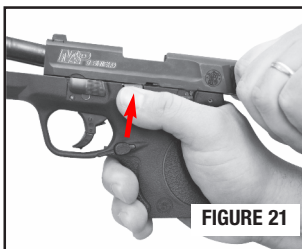

FIGURE 21
- Pull the slide fully to the rear, press upward on the slide stop while letting the slide move slightly forward thereby locking the slide open (FIGURE 21).